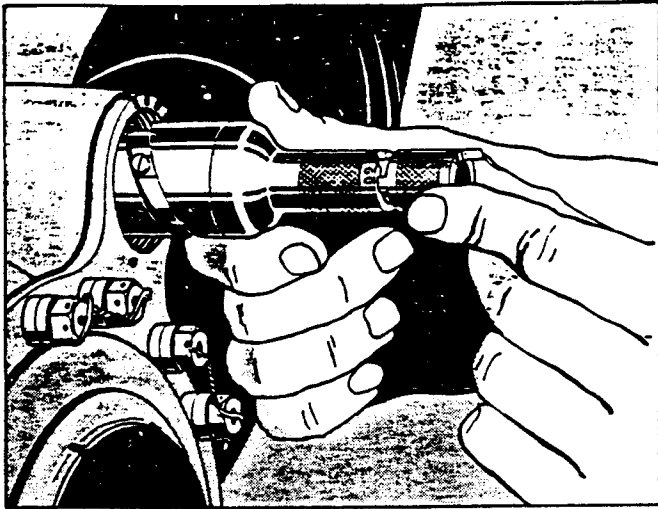
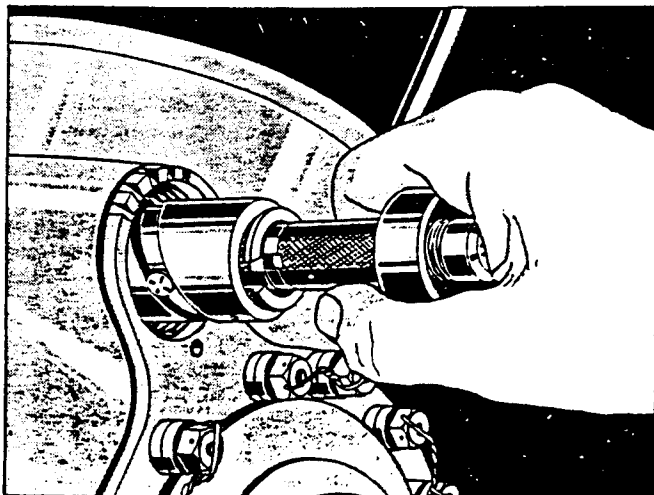

Figure 5. Checking Distributor Valve Setting
Figure 6. Adjusting Distributor Valve Position
h. In order to set the distributor valve, the blades should be at an angle between 20 and 50 degrees. Check the setting of the distributor valve. (See figure 5.) Place the distributor valve "GO, NO-GO" gauge over the distributor valve bushing in such a way that the outer ring of the gauge fits flatly against the end of the cam. The inner ring rests on top of the distributor valve. Then check the setting by twisting the "GO, NO-GO" gauge with the fingers. The square lug should pass over the surface marked "GO." Should the valve not be set correctly, it should be screwed in or out as required. (See figure 6.) If the lug is under the "GO"